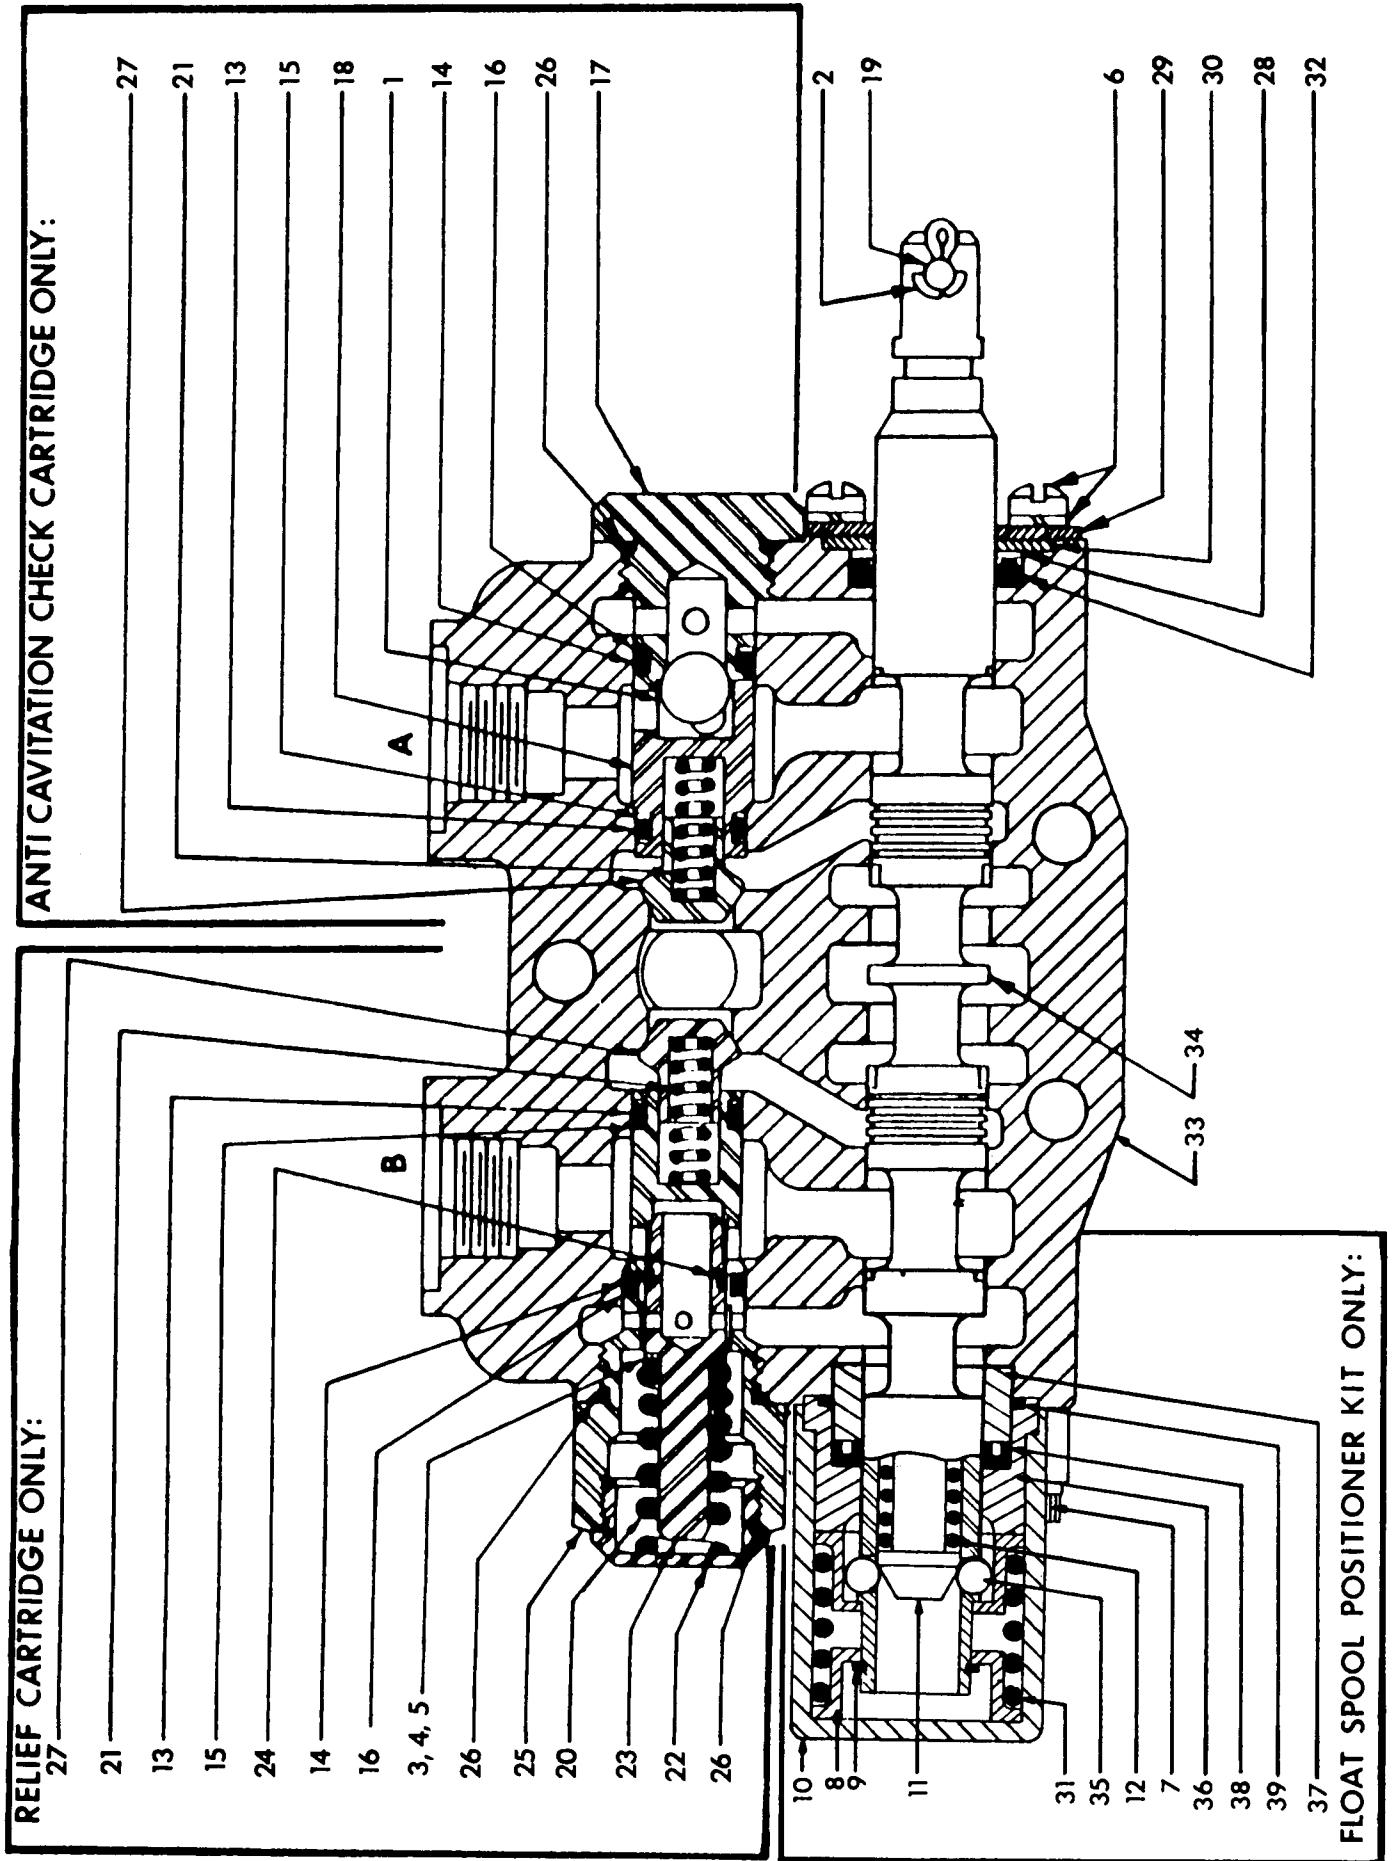

FIG 10
20. Bent spool.....replace with new spool section. See item 31 at the end and Fig 10, 11, and 12.
23. Spool not moved to full stroke.....check travel, should be 5/16 inch either way or a total of 5/8 inch. See item 31 at the end.
25. Overload relief valve in the control.....clean relief carefully but do not dis- valve stuck open or malfunctioning. turb its pressure setting as it can not be field calibrated, or replace cartridge. See item 31 at the end and Fig 10 and 11.
28. Check poppet in the control valve.....clean check poppet(s) carefully, being sure that it moves freely with good spring action and seats properly or replace. See item 31 at the end and Fig 10, 11, and 12.
29. Damaged or worn spool seals.....replace spool end seals, see item 31 at the end and Fig 10, 11, and 12.
30. Check ball in anti-cavitation check.....clean anti-cavitation valve carefully, being sure that checks move freely and seat properly, or replace cartridge. See item 31 next, and Fig 10 and 11.
PARTS LIST - FIG 10